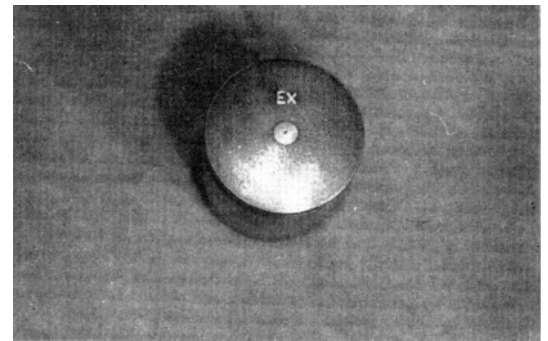

Fig. 46 Piston identification mark
3. Be careful to set the piston identification mark "EX" forward. (Fig. 46)